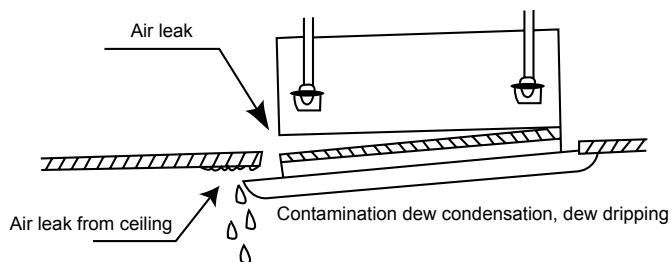

Fig.10.13
- (1). Improper screwing of the screws may cause the troubles shown in Fig.10.13.